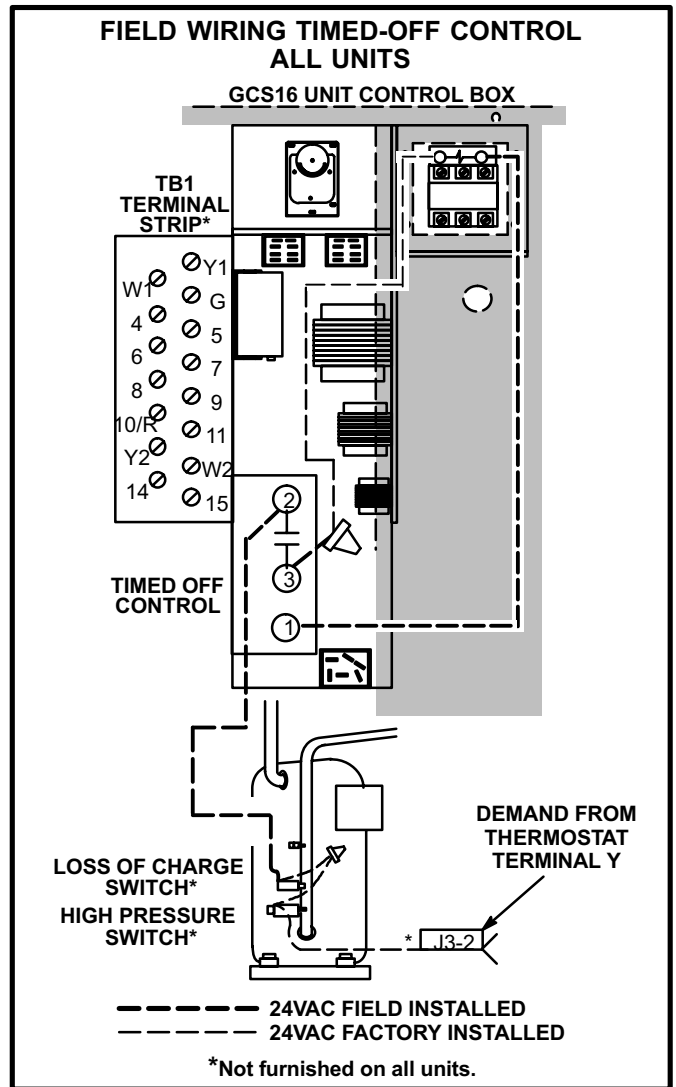

FIGURE 68
K-Timed-Off Control Kit (Figure 68)
- 2-Make wiring connections per wiring diagram in figure 68.